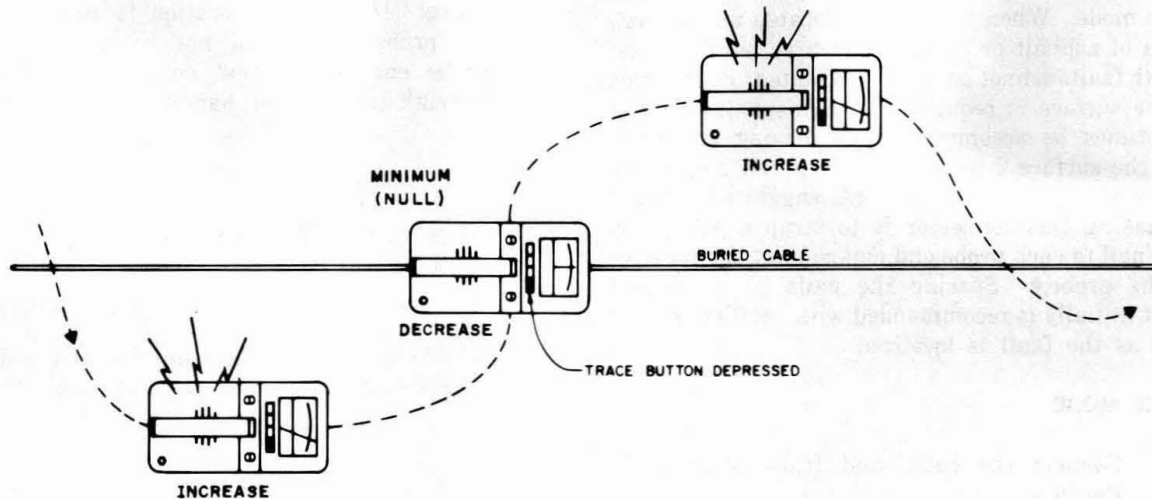

Fig. 13—Audio Signal and Meter Indication During Cable Tracing
5.28 Slowly swing the receiver back and forth over the cable path (Fig. 13 and 14). The audio signal and meter indication decrease to near zero directly over the cable and increase to maximum to either side of the cable path. The cable can now be traced by noting the position of the signal minimum (null) as the operator walks over the cable path.